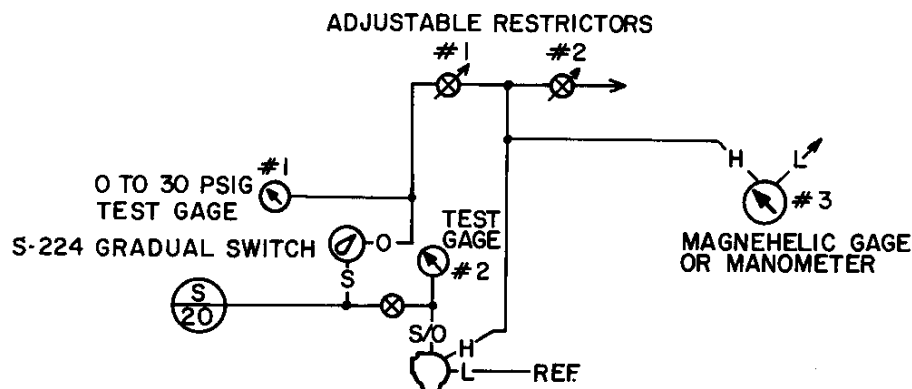

Fig. 4: Test Divider Circuit
2. Hook up a test divider circuit as shown in Fig. 4.